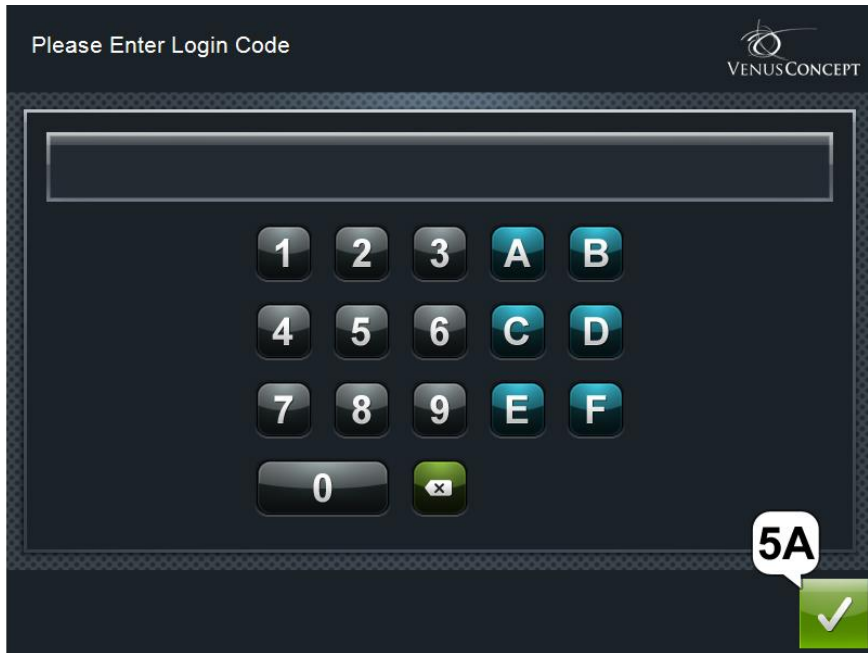

Figure 5-9: Set Login Code screen
4. **Set Login Code Button:** This button allows the operator to change the login code required to access the treatment screen. Pressing the *Set Login Code* button will display a new window (see Figure 5.9) and guide the operator through the 3 steps required to change the code: